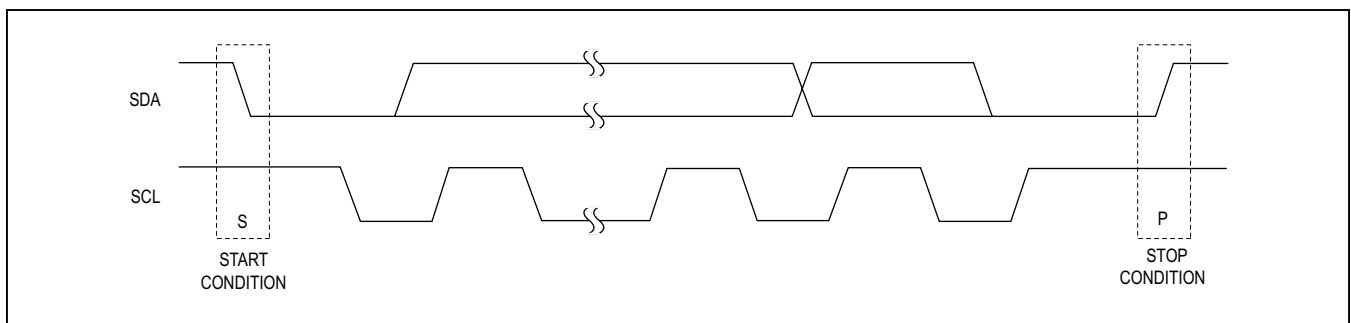

Figure 5. START and STOP Conditions
The IC operates as a slave device that sends and receives data through an I2C-compatible 2-wire interface. The interface uses a serial-data line (SDA) and a serial-clock line (SCL) to achieve bidirectional communication between master(s) and slave(s). A master (typically, a microcontroller) initiates all data transfers to and from the IC and generates the SCL clock that synchronizes the data transfer. The SDA line operates as both an input and an open-drain output. A pullup resistor is required on SDA. The SCL line operates only as an input. A pullup resistor is required on SCL if there are multiple masters on the 2-wire interface, or if the master in a single-master system has an open-drain SCL output. Each transmission consists of a START (S) condition (Figure 5) sent by a master, followed by the MAX14592 7-bit slave address plus R/W bit, a register address byte, one or more data bytes, and finally a STOP (P) condition.
Both SCL and SDA remain high when the interface is not busy. A master signals the beginning of a transmission with a START condition by transitioning SDA from high to low while SCL is high (Figure 5.) When the master has